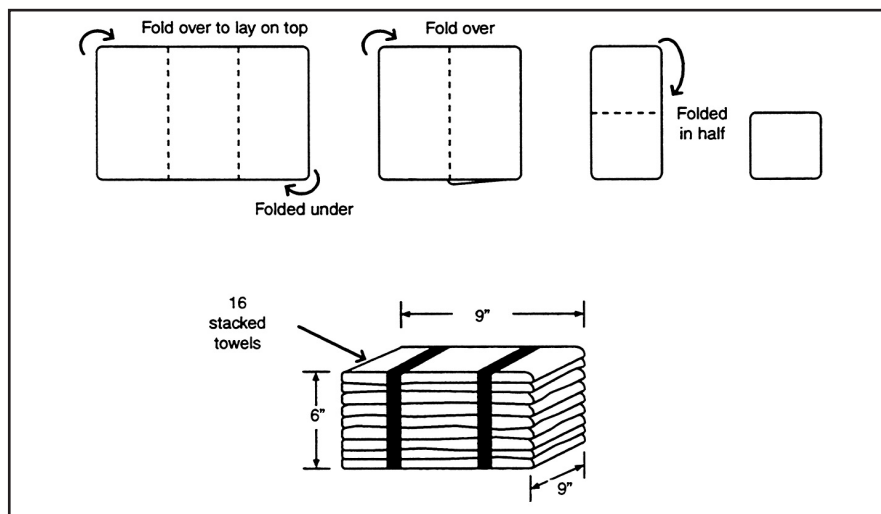

Figure 1. Construction of the 16-towel biological indicator test pack.
- Fold towels lengthwise into thirds and then in half (Figure 1).
- Secure the stack using steam chemical indicator tape, being careful to maintain the size of the pack indicated earlier (Figure 1). The pack should weigh approximately 3 pounds.